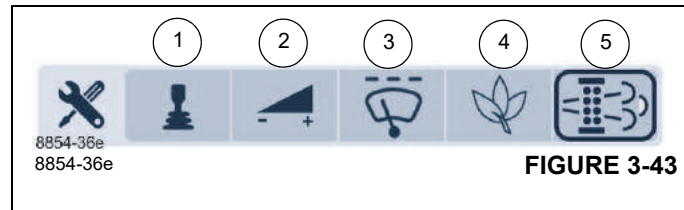

FIGURE 3-43
The Tools Group Menu is made up of the Icons shown in Figure 3-43 that allows the operator to select sub-menus to
The Controller Sensitivity Function (1), (Figure 3-43) allows the operator to adjust the sensitivity of the controllers and foot pedal (optional). For more information on setting the controller sensitivity function, refer to *Setting the Controller Sensitivity Function*, page 4-74.
The Controller Speed Function Screen (2), (Figure 3-43) allows the operator to adjust the crane function speeds relative to the positions of the controllers. Adjustment is made as a percentage of full rated speed. For more information on Setting the Controller Function Speed, refer to *Setting the Controller Speed Function*, page 4-76.
The Wiper Interval Function Screen (3), (Figure 3-43) allows the operator to set a value between 3 and 30 seconds for the front and skylight wiper interval. For more information on setting the wiper interval, refer to *Setting the Wiper Interval Function*, page 4-78.
The Economy (ECO) Mode Function(4), (Figure 3-43) will reduce the throttle command when the crane functions are not being used. For additional information on Setting the Economy (ECO) Mode Function, refer to *Setting the Economy (ECO) Mode Function*, page 4-79.